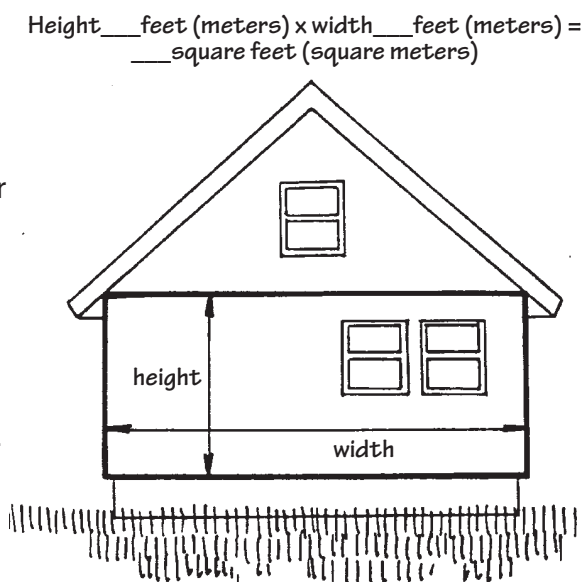

Figure 11. Wall areas
- The area to be sided can be determined by measuring the height and width of the house, including windows (Fig. 11).